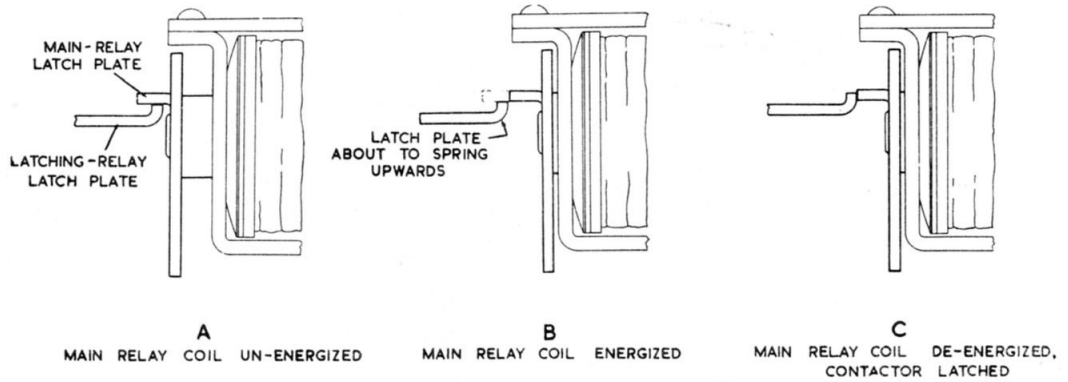

Fig. 3. Details of latching mechanism
4. The operation of the latching mechanism is shown in fig. 3, with A the position of the plates when the main relay coil is unenergized. When the main relay armature